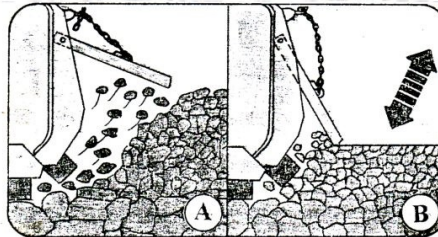

Figure 15. Different position of the trailer of the trinket different degrees of soil compaction are achieved
- a) The higher the trailer is raised (see Figure 15 - A), the larger the soil particles. On clay soil types, this position of the trailer prevents the soil from sticking around the rotor and on the inside of the trailer.
- b) The lower the trailer is (see Figure 15 - B), the finer the soil particles become, since the soil gripped by the knives hits the inside of the trailer with greater force.
2. When the trailer is completely lowered, very fine soil particles are created and the soil prepared in this way is very suitable for sowing small vegetable seeds. You achieve this position by hanging the trailer by the rear link of the chain from the carrier. With such a position of the trailer, the treated surface is also level (see Figure 15. A and B).